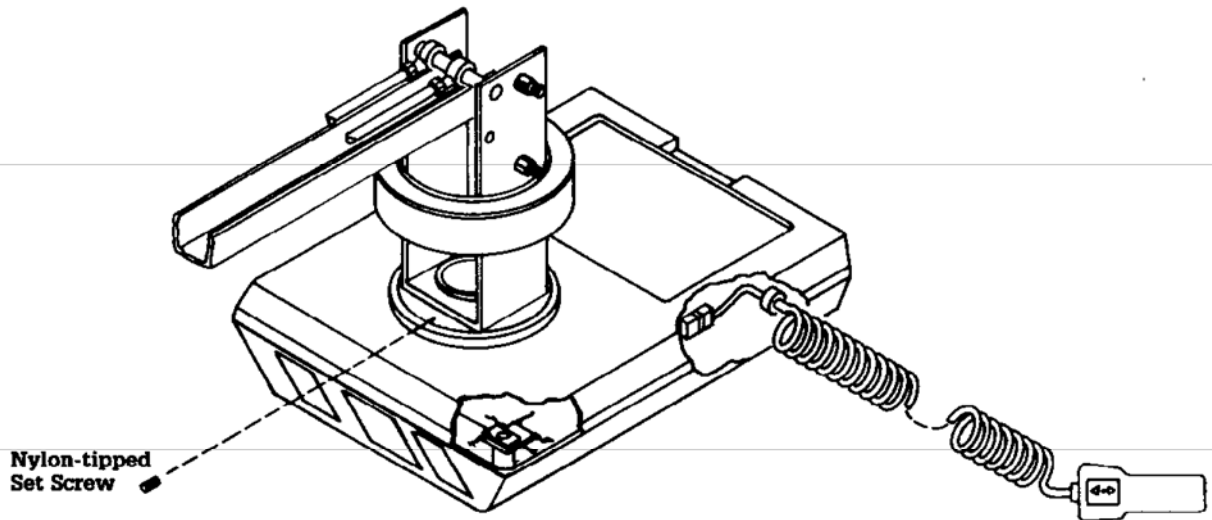

Figure 14
5. Remove shoulder bolt closest to hard stop. See Figure 14.
4. Locate nylon-tipped set screw 180 degrees opposite hard stop. See Figure 14.